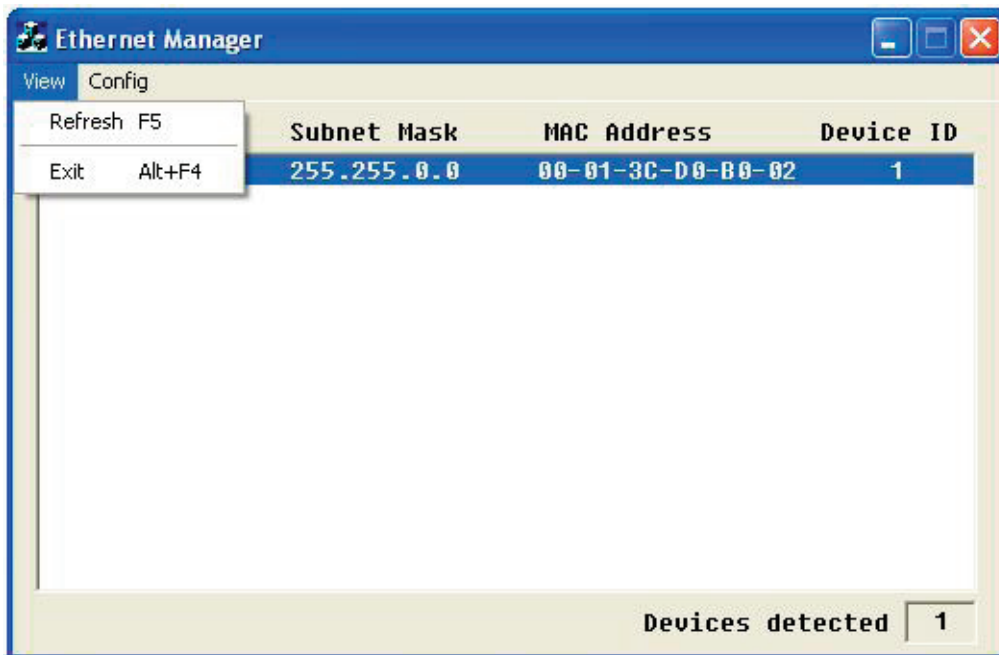

Figure A-3. Refresh Ethernet manager screen.
5. If your device is not found, check the connection and click "View"—> "Refresh." See Figure A-3.